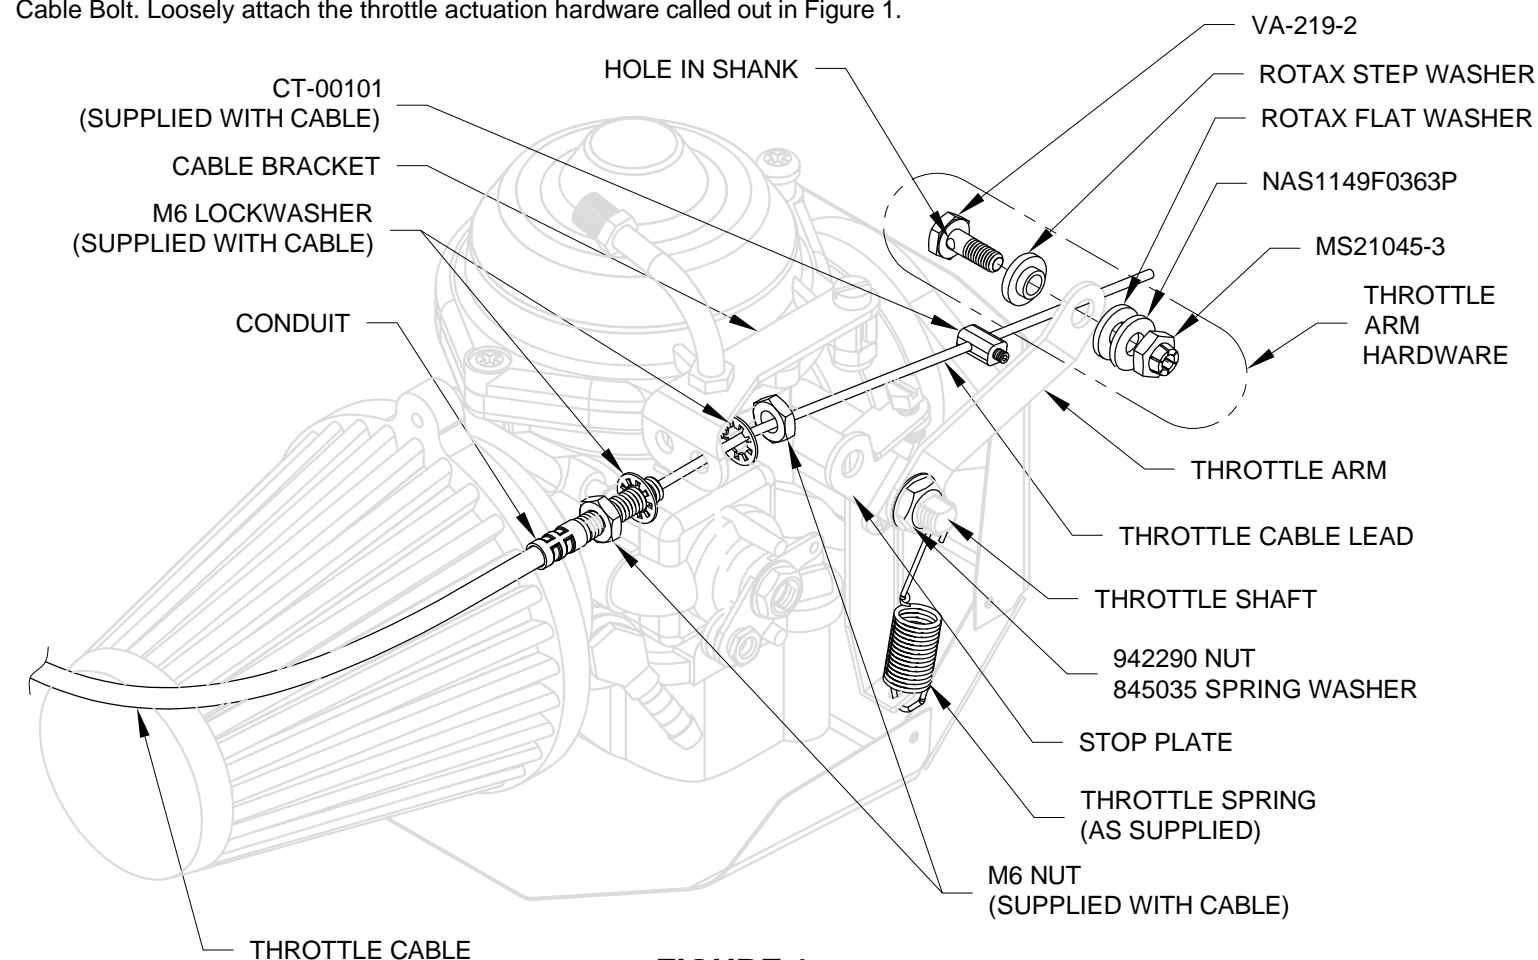

FIGURE 1:
Step 6: Install the conduit of the right Throttle Cable (the longer of the two cables) to the Cable Bracket using the hardware shown in Figure 1. Adjust the nuts so that the Cable Bracket will be approximately centered on the threaded portion of the conduit, then tighten.
Step 7: Thread the Throttle Cable Lead through the CT-00101 Stop Nut and into the hole in the shank of the VA-219-2 Control Cable Bolt. Loosely attach the throttle actuation hardware called out in Figure 1.